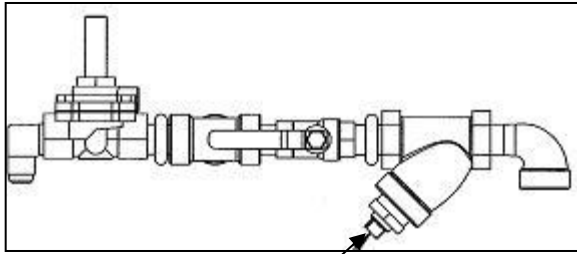

Fig. 4-3 – Remove gas strainer/filter at hex nut
6. Remove gas strainer as shown in Fig. 4-3 and clean it.